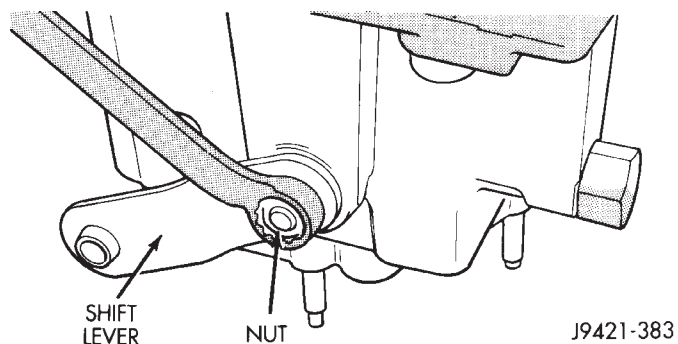
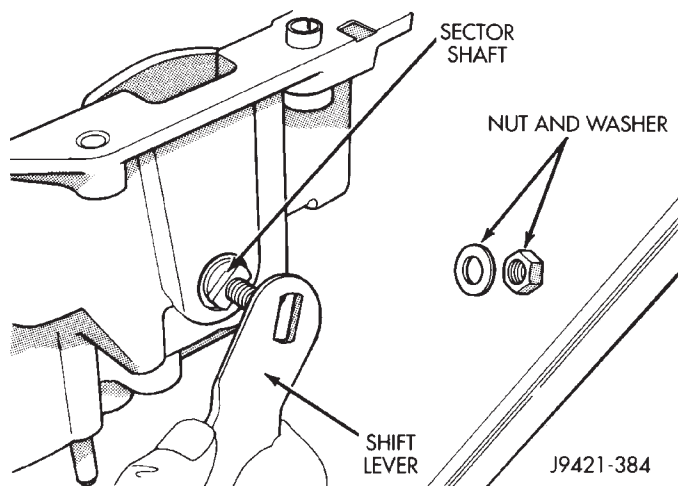

Fig. 20 Loosening Shift Lever Nut
Fig. 21 Shift Lever, Nut And Washer Removal
- (9) Loosen nut and washer that attach shift lever to sector shaft (Fig. 20). Then remove, nut, washer and lever from sector shaft (Fig. 21).